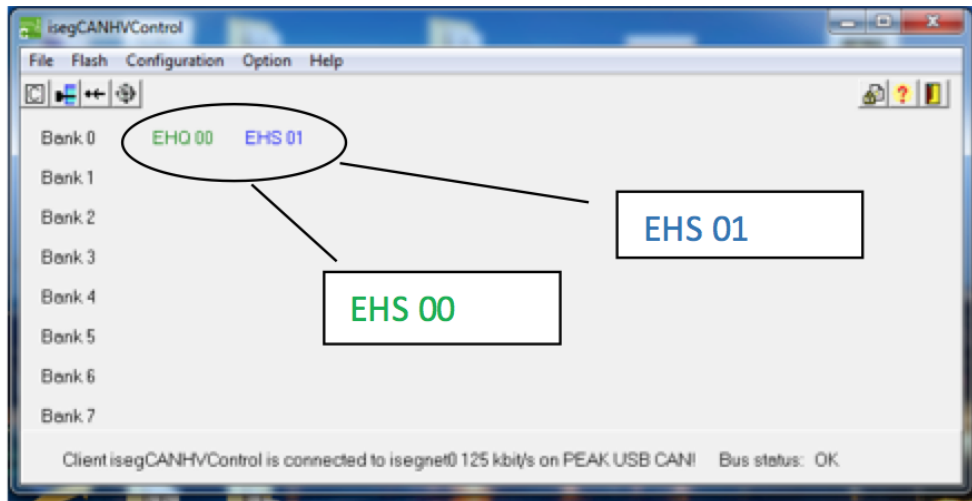

Figure 20. The controller cards may be the EHS or EHQ model and are labeled accordingly.
4. On *isegCANNHVControl* window (Figure 20), review that **EHQ 00** and **EHS 01** labels appear.
9. On **isegCANNHVControl** window (*Figure 20*), confirm that **EHQ 00** and **EHS 01** labels appear.